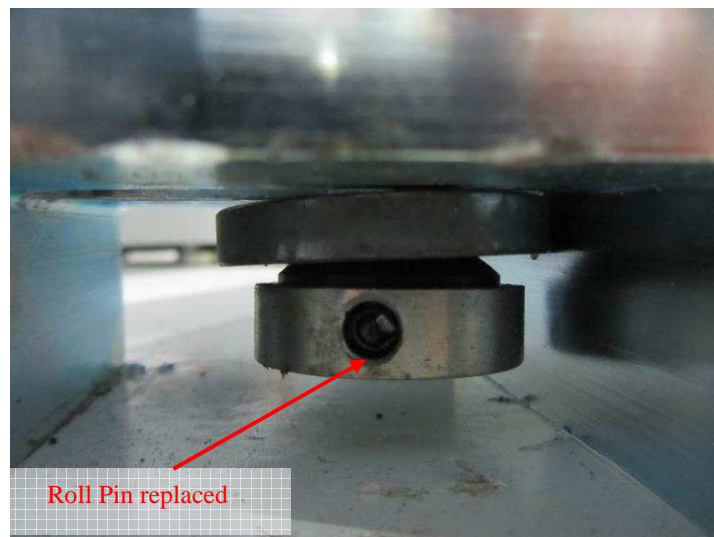

Figure 8
- Partially insert the replacement roll pin and knock into position using the hammer and parallel pin punch, pushing the existing pin out with the introduction of the new pin. The finished item should reflect figure 8.